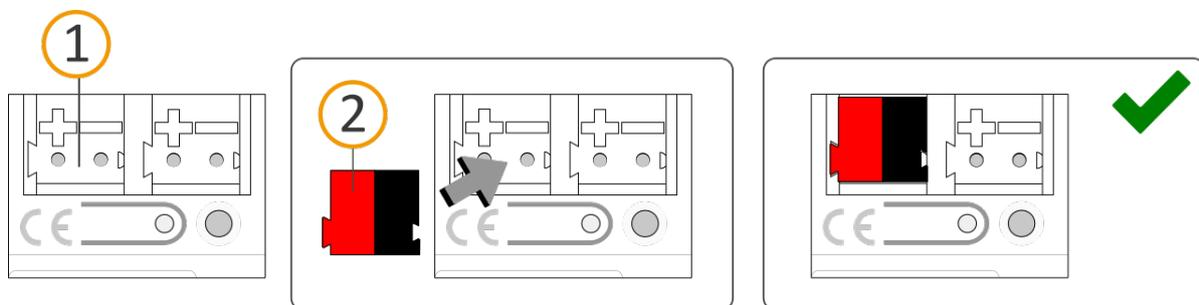

Figure 16: Connect the bus line
2. Connect the KNX/TP bus line (referred to below as the bus line) to the KNX connection of the device (see figure 16, item 1) by means of the supplied bus connection terminal (see figure 16, item 2). Polarity: left/red: "+", right/black: "-":
- a. Attach the bus connection terminal (see figure 16, item 2).